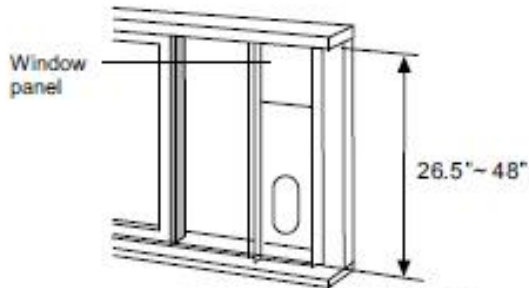

Fig. 14
- 2) Attach the window slider kit to the window stool. Adjust the length of the window slider kit according to the height of the window. Modify/cut the window slider kit if the height of the window is less than 27". Open the window sash and place the window slider kit on the window stool. See Fig. 14